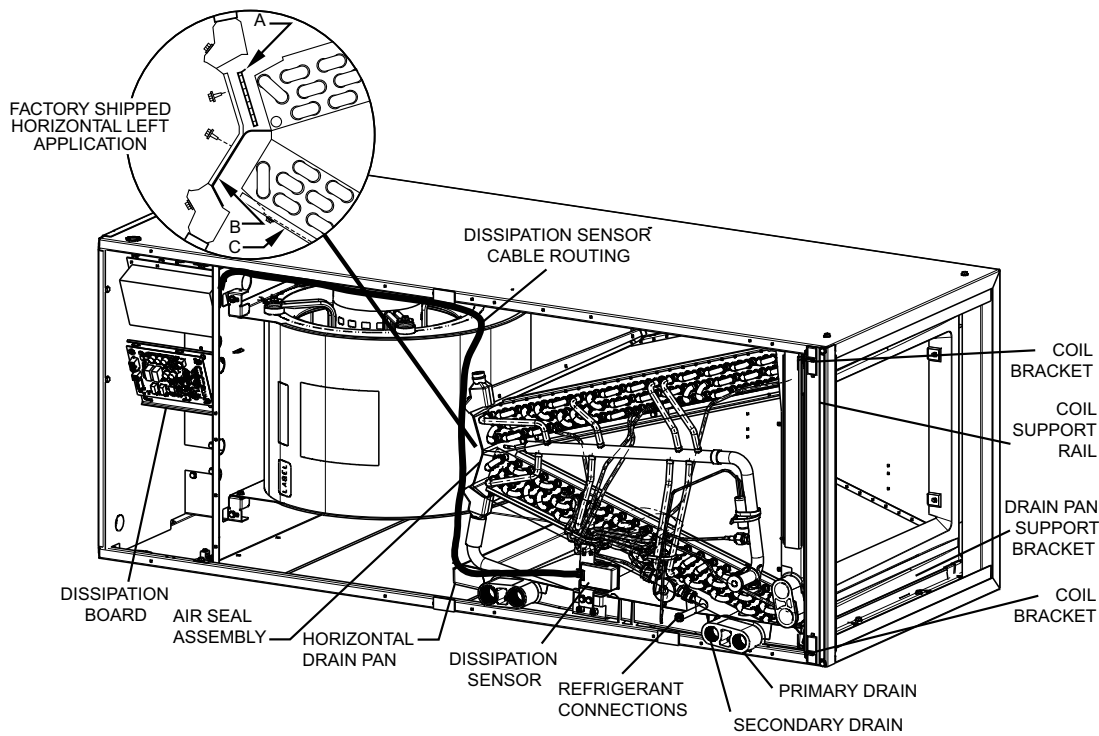

Fig. 4 – A-Coil in Horizontal-Left Application (Factory Ready)
2. When suspending unit from ceiling dimples in casing indicate proper location of screws for mounting metal support straps (see Fig. 4).